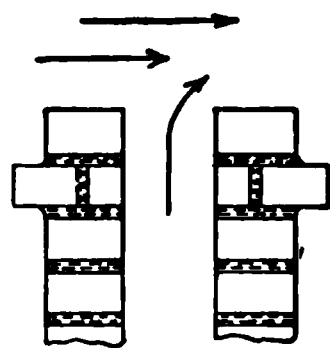

FIG. 49. — Ejector principle.
60. Ejectors and Injectors. When the wind blows across the top of a chimney, the rapidly moving current of air carries along with it some of the air within the chimney, as shown in Fig. 49. For this reason a chimney draws much better on a windy day.